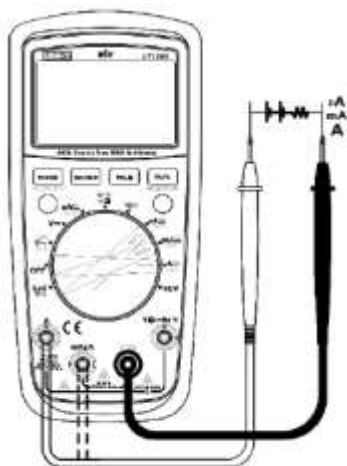

Figure 9
8. MASURARE CURENT ALTERNATIV SAU CONTINUU (AC SAU DC) (fig. 9)